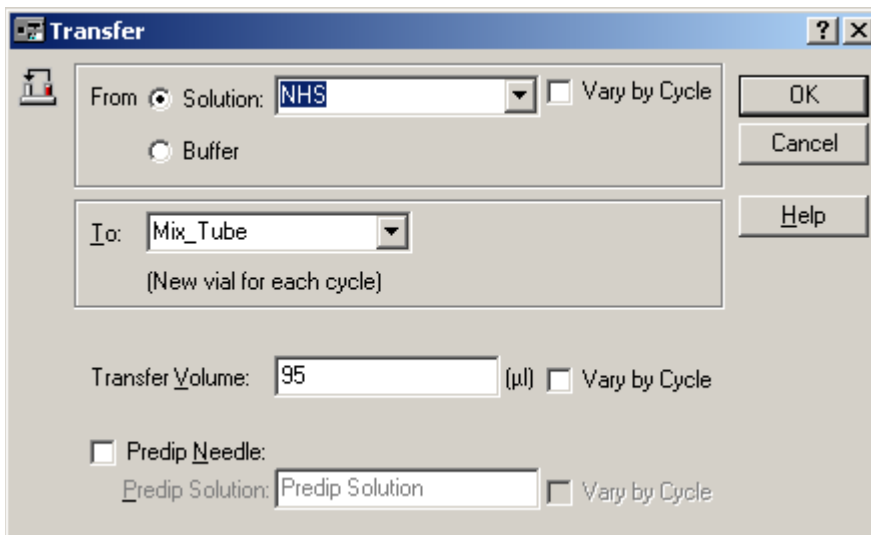

Figure 2.7
- 2.10.2 Transfer window (Fig. 2.7) will open.
- 2.10.3 Type in the information as shown in the Transfer window (Fig 2.7).